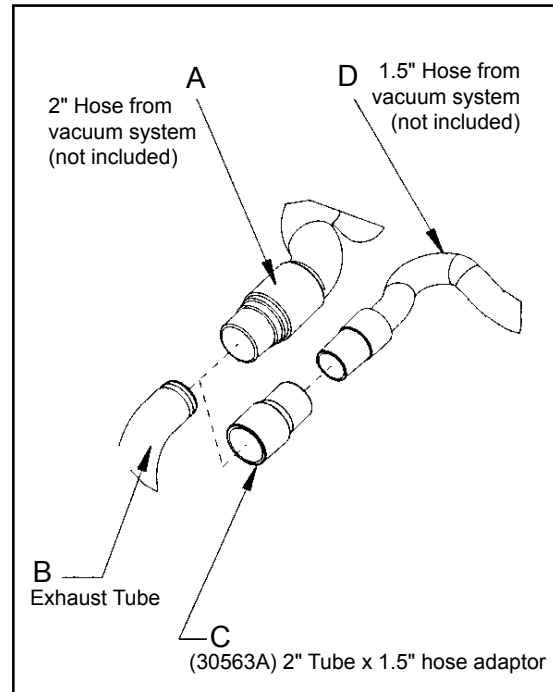

Figure 4
1. Install 2" hose end (figure 4, A) directly into the exhaust tube (figure 4, B).
1. Install the 2" x 1 1/2" hose end adaptor (Part No. 30563A) (figure 4, C) over the exhaust tube (figure 4, B).
2. Insert 1 1/2" hose end (figure 4, D) into the adaptor (figure 4, C).